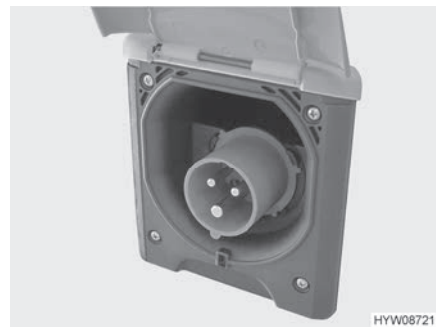

Fig. 83 230 V connection on the vehicle (CEE socket outlet)
- Open the cover of the 230 V connection on the vehicle (Fig. 83) and insert the plug connector. Ensure that the detent of the spring-mounted pivoting cover is engaged in position.